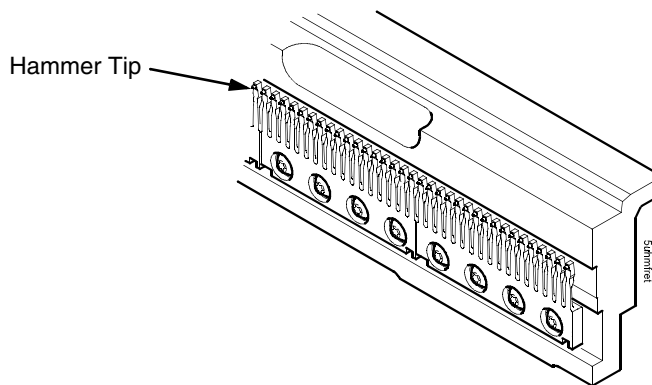

Figure 6. Cleaning the Hammer Tips
8. Using a stiff, non-metallic brush (such as a toothbrush), *gently* brush the hammer tips to remove lint and ink accumulations. (Figure 6.) Vacuum up any residue.